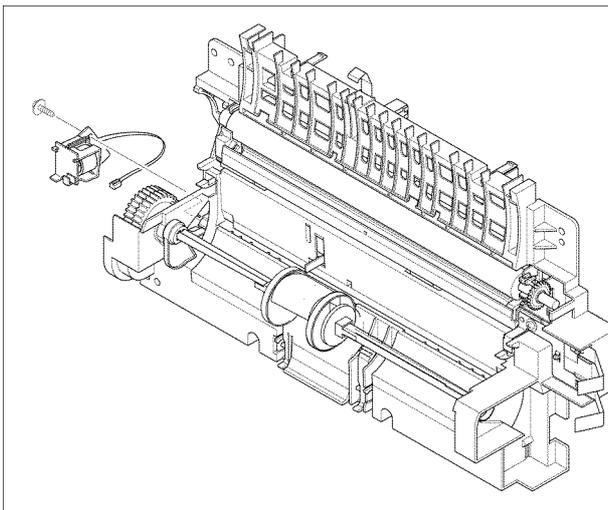

Figure 3
4. Remove 1 screw, then the solenoid, Figure 3.